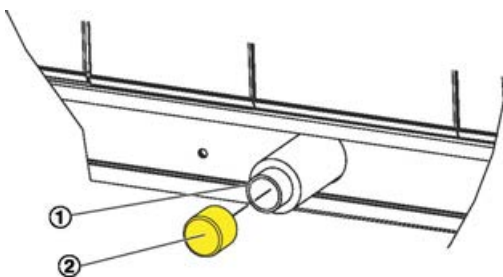

Fig. 31: Condensate drain
2. ▶ Remove the protective cap (Fig. 31 /2) from each drain (Fig. 31 /1) of the condensate drip tray.
4. ▶ Connect a drain trap to each condensate drain (Fig. 31 /1).